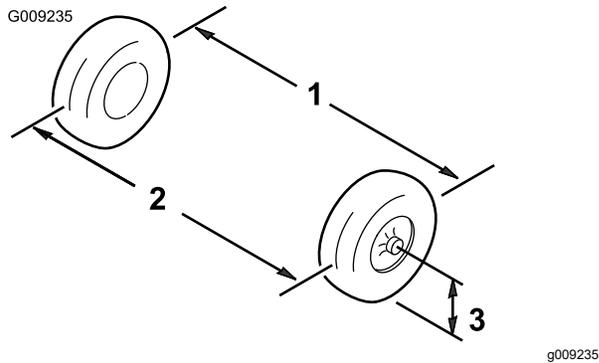

Figure 59
3. Measure the distance between both of the front tires at the axle height at both the front and rear of the front tires (Figure 59).